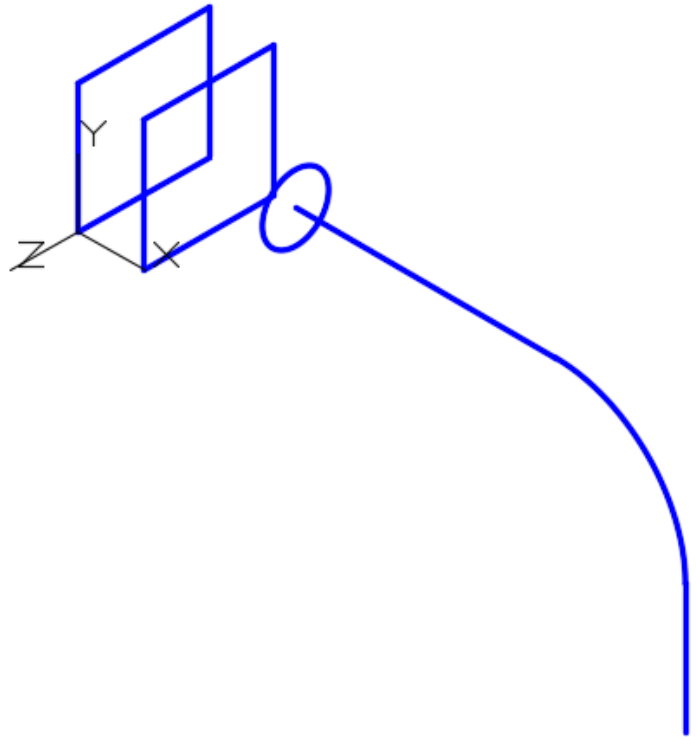

Figure Step 11
Step 11 Fillet the pline with a radius of 12 inches. (Figure Step 11)